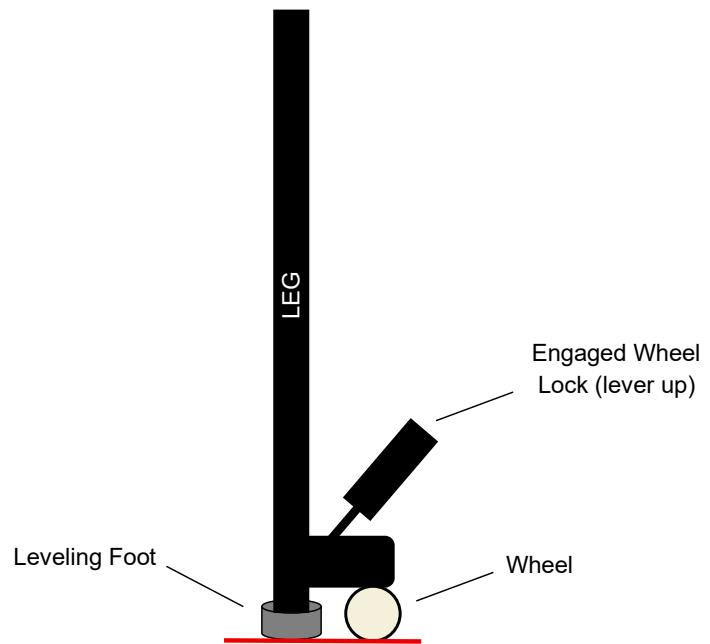

Fig. 17
16. After all casters are installed, adjust the leveling feet parallel with the wheel when the wheel lock is engaged (lever up) (Fig. 17)